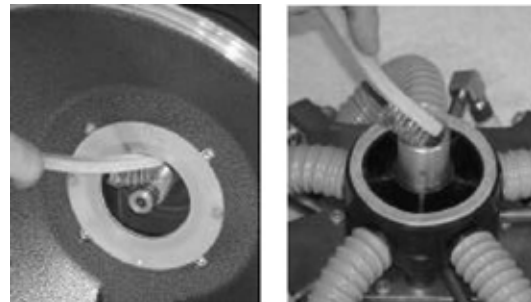

Figure 18. Remove Debris on Gear Box Shaft and Inside Threaded Portion of Hub
6. Remove any accumulated debris on the gear box shaft and inside the threaded portion of the hub (see Figure 18).